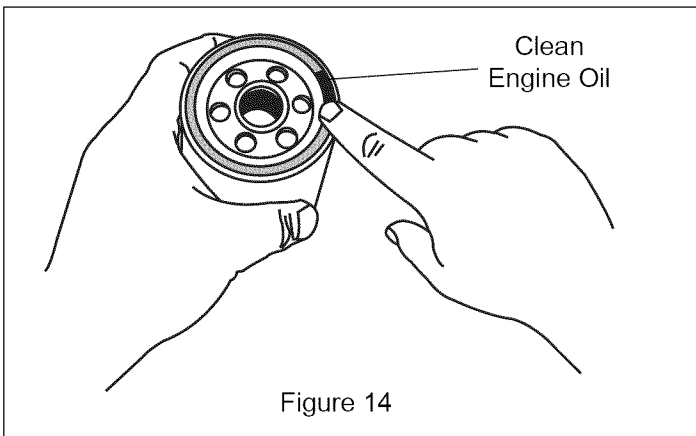

Figure 14
4. Coat a film of clean engine oil on the seal of the new filter, see figure 14.